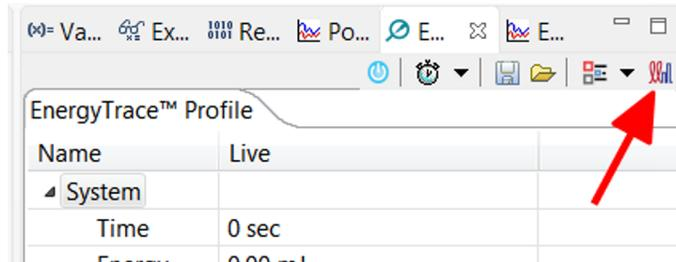

Figure 14. Switch to EnergyTrace++
2. Switch to EnergyTrace++ mode by clicking the button shown in Figure 14.
- Switch back to EnergyTrace mode by pressing the button previously shown in Figure 14. Click *Menu*→*Run*→*Free Run* to record the system power consumption.